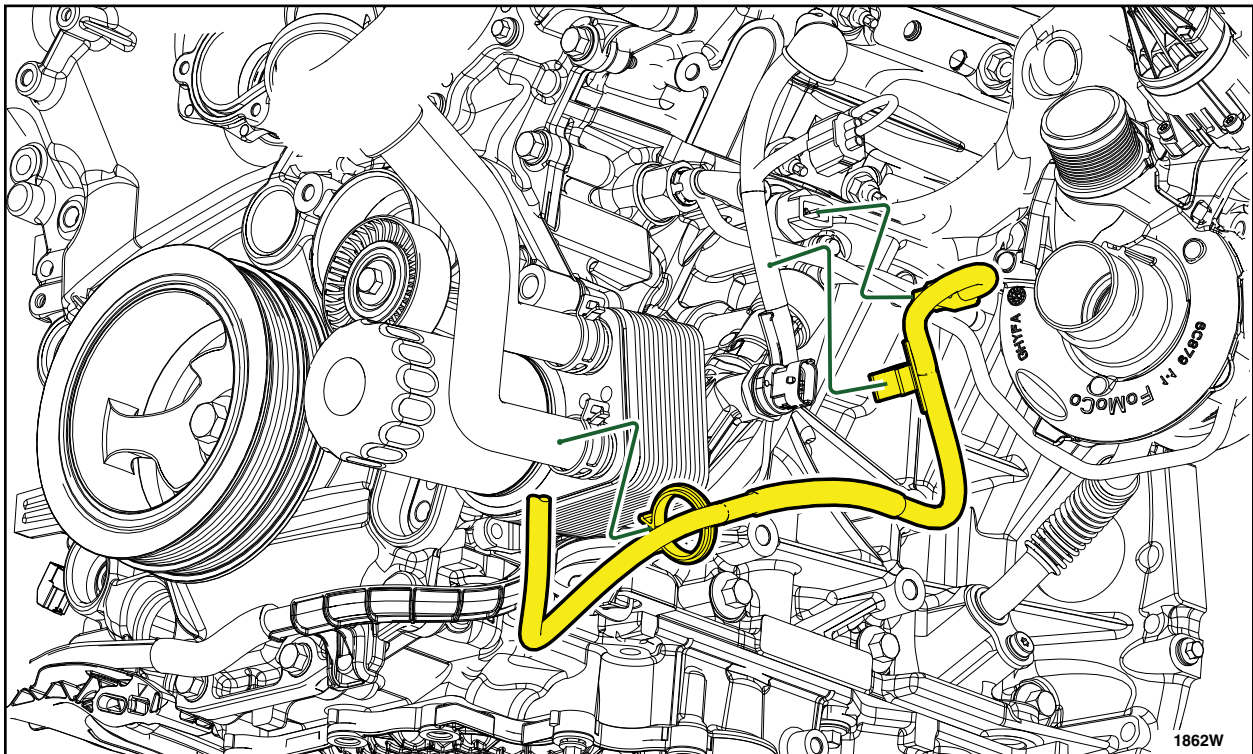

FIGURE 12a
5. Remove and discard the wire assembly. See Figures 12a, 12b, 12c, 12d and 12e.
8. Install the *new* wire assembly in the vehicle following the same routing as the wire assembly that is being replaced. See Figures 12a, 12b, 12c, 12d and 12e.